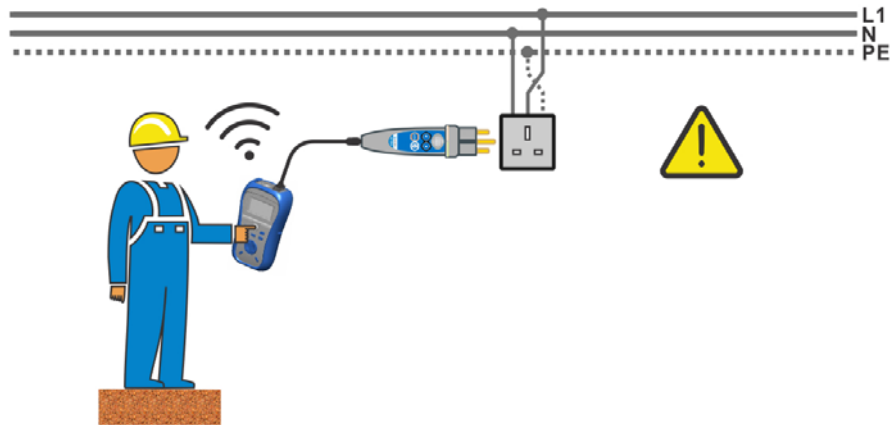

Figure 5.41: Reversed L and PE conductors (application of plug cable or commander)
- ❑ **Connect** test leads to the item to be tested (see figures 5.41 and 5.42).